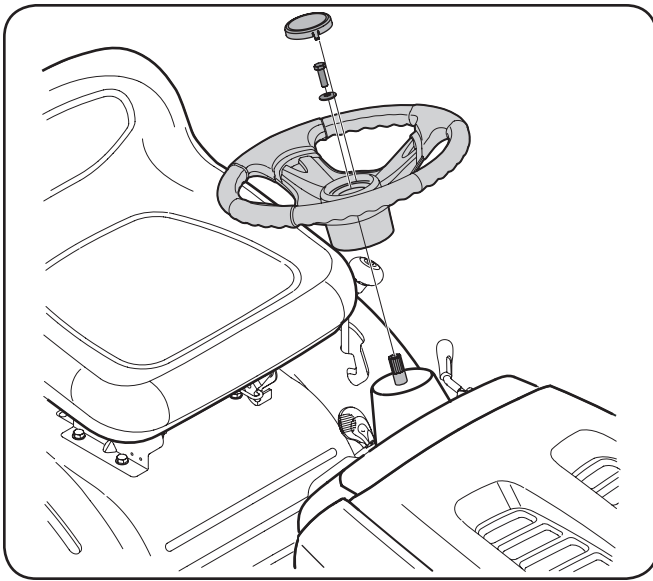

Figure 3-3
2. Place the washer (with the cupped side down) over the steering shaft and secure with the hex bolt. See Fig. 3-3.